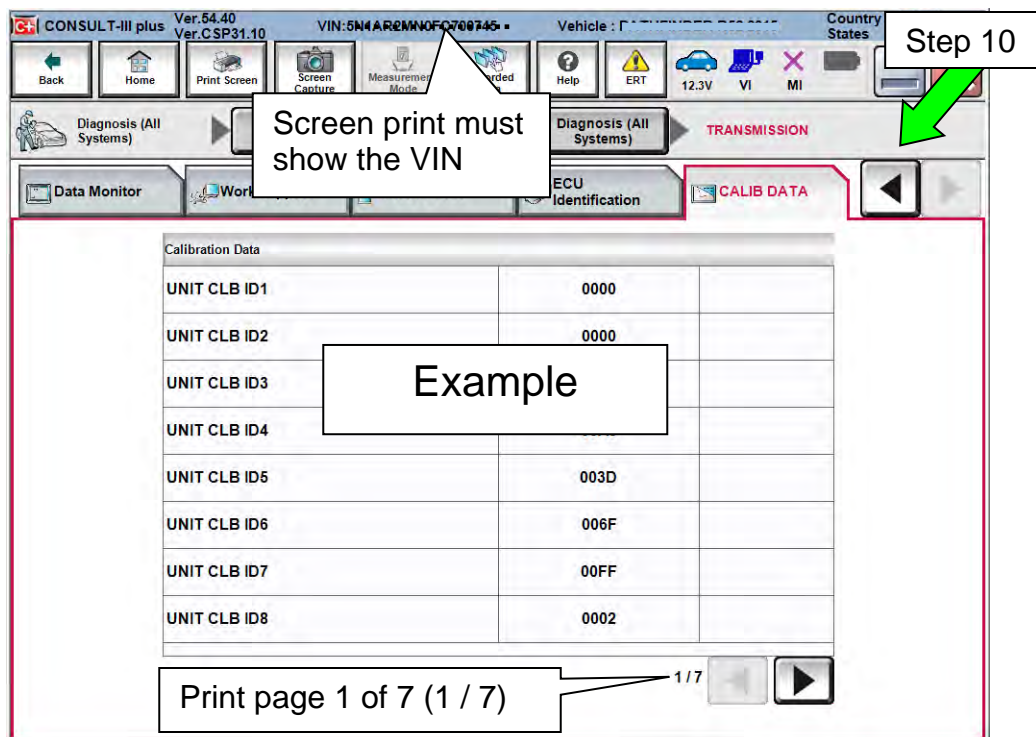

Figure 3F
9. Print a copy of the screen shown in Figure 3F and attach it to the repair order.
10. Select scroll arrow shown in Figure 3F.